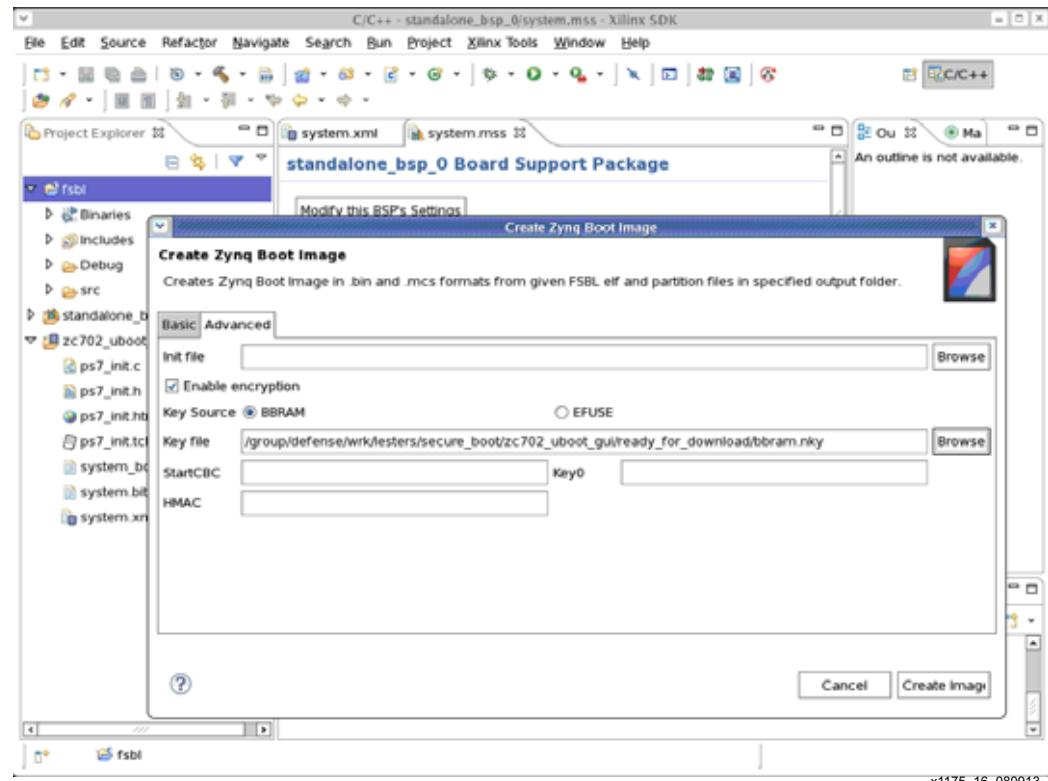

Figure 18: Creating an Encrypted Image
11. To create a secure image, specify partitions in the Basic tab in the Create Zynq Boot Image dialog box using the same method used for the non-secure image. Create an output directory `ready_for_download_bbram`. Specify this directory in the Output folder. Click on the **Advanced** tab in the **Create Zynq Boot Image** dialog box, click **Enable encryption**, and browse to the key generated in step 10. As shown in Figure 18, click **Create Image** to create the secure boot image. Bootgen writes the image in either MCS or BIN format.